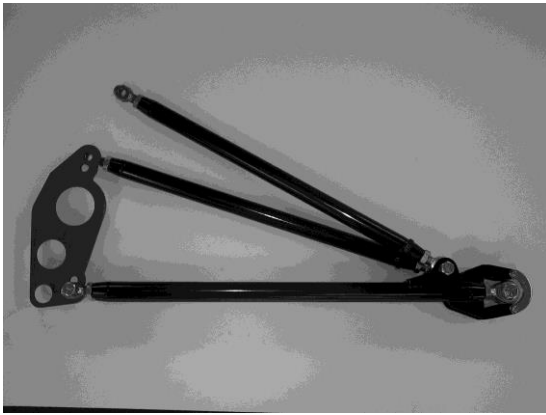

Figure 3
4. Next, attach the front end of the upper bars to the mounts on the lower bar using the 3/4" bolts and nuts, then tighten. **See Figure 3.**
5. Using two of the 5/8" bolts provided in the kit, insert one through each of the solid rod eyes of one ladder bar. Insert one of the 3/4" bolts through the front rod end. All three bolts must be facing the same direction. Lay the bar on the ground with the threads of the bolts facing up. Next, take one of the housing brackets and align the two rear bolts so that they go through the appropriate holes in the housing bracket. **See Figure 3 and 4.**
both ladder bars are adjusted the same. **See Figures 3 and 4.**